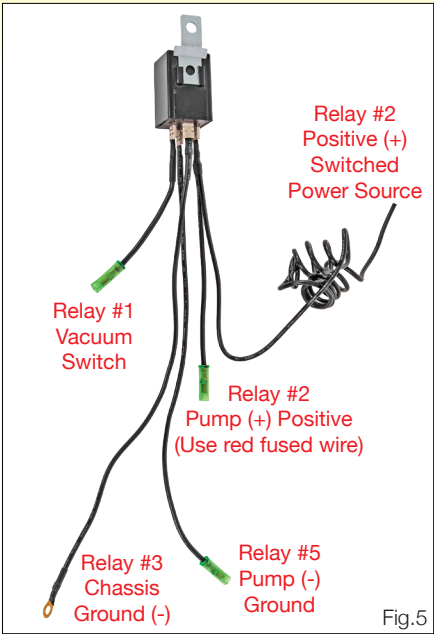

Fig.5
- 11. At this point you have completed installation of the vacuum pump. Before you start the vehicle, review the wiring diagram, Figure 5, to make sure all of your connections are correct: